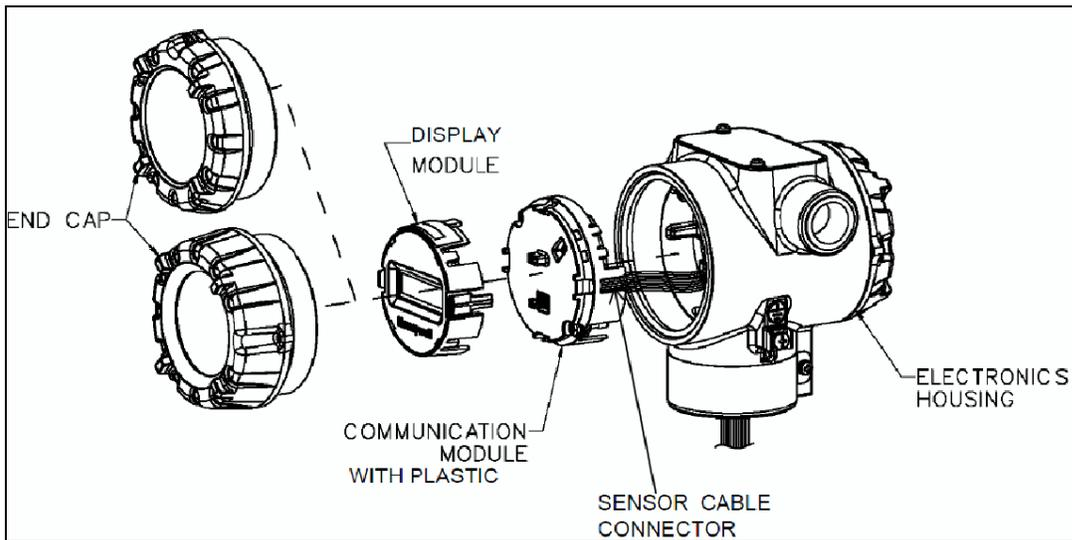

Figure 26 – Disassembly for Meter Body Replacement
4. Refer to Figure 26. Loosen the End Cap Lock, and unscrew the End Cap from the electronics side of the Transmitter housing.